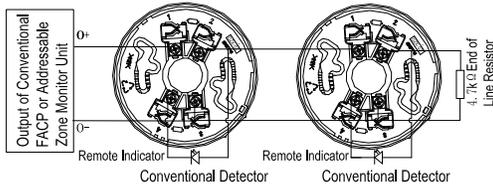

Fig. 6
- ◇ When the detector is connected with conventional FACP or addressable zone monitor unit, if a 4.7k Ω end of line resistor is connected to the end of output loop, DB-01 base is used. The system composition is shown in Fig. 6.